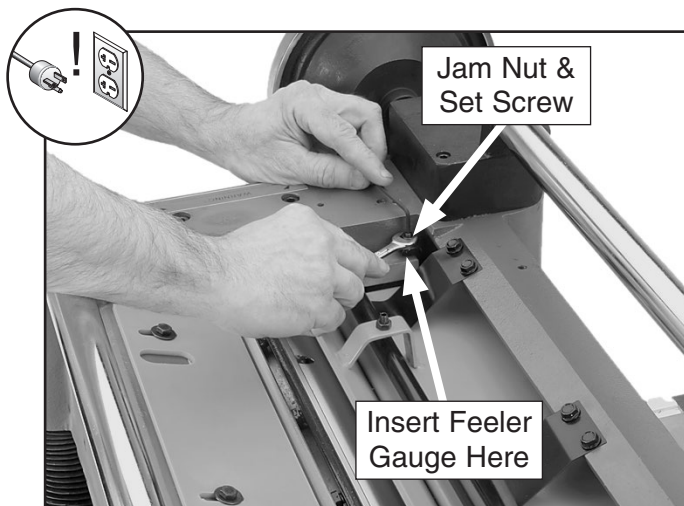

Figure 70. Feeler gauge location for adjusting pressure bar height when using wood blocks.
15. Repeat **Steps 13–14** for pressure bar height adjustment, but adjust the gap to 0.008" (see **Figure 70**).